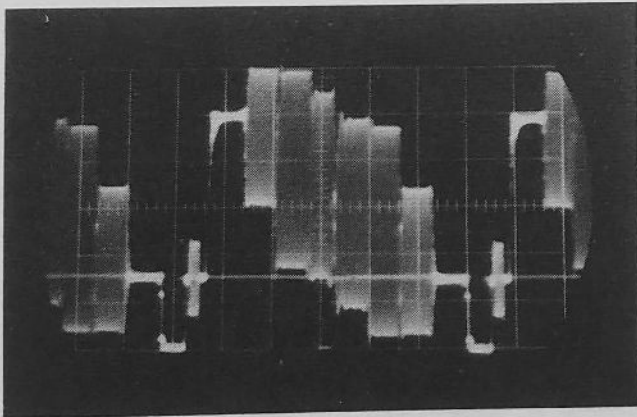

Figure 30. Input, Video Input 2J13, 0.7V B-W.
35. Apply a 0.7 v, black to white composite color bar signal to the video input. Place PHASE control in mid-range. Place TEST switch to CHROMA VAR, position 5. (See Figure 30.)